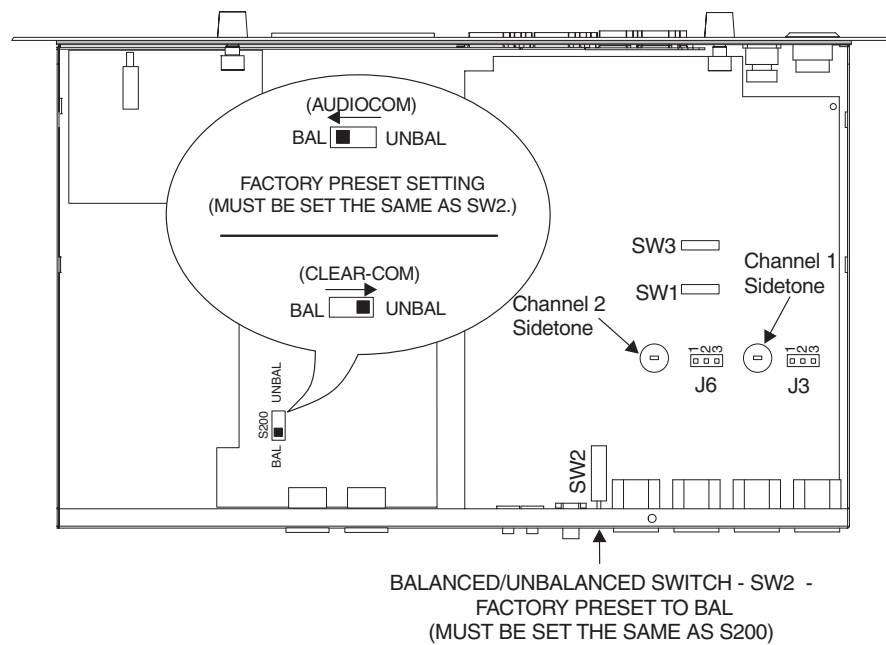

Figure 2. Locations of Configuration Jumpers and Switches
22. Balanced / Unbalanced Selector Switch: The selector switch sets the MS2000 for compatibility with either Audiocom or Clear-Com* channel connector pin-outs, channel power requirements, and call signaling requirements. The internal switch S200 has to be set the same, reference Figure 2 and Balanced/Unbalanced Switches information on page 10 .
Before connecting the MS2000 make sure that it is properly configured for your intended usage. Figure 2 shows the locations of the configuration jumpers and switches. To access internal switches and jumpers, remove three screws from the top cover and three screws from each side.